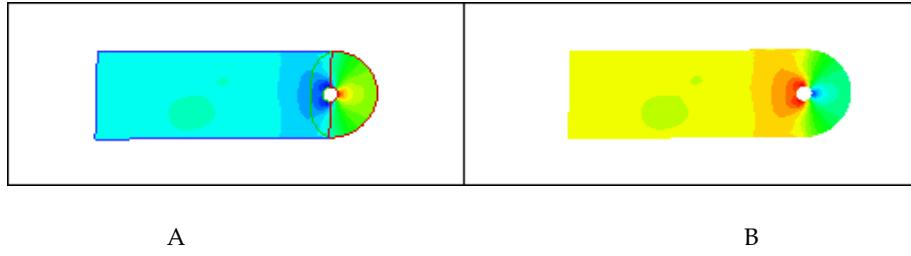

Figure 9-12. A) Flooded contour plot with default settings. B) Flooded contour plot with a reversed colormap.
- **Reversed Color Map** - You can reverse the color map by toggling on “Reverse”. Two plots, one with the color map going in the default direction and one with the color map reversed, are shown in Figure 9-12.